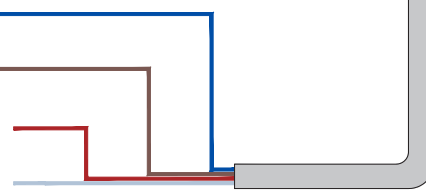

Figure 5.3
8. Refer to **Section 5, Figure 5.3** for guidance on termination details.